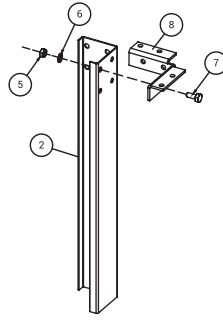
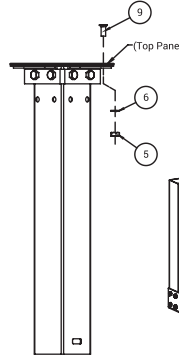
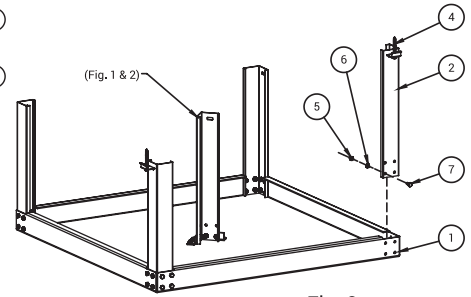

Fig. 1
Fig. 2
Fig. 3
Assemble leg (item 2), & attachment bracket (item 8), using included hex bolts (item 7), lock washers (item 6) & nut (item 5). See Fig. 1. Assemble Fig. 1. to the underside of square top, using included flat head screws (item 9), lock washers (item 6) & nut (item 5). See Fig. 2. Place square top upside down on table or flat surface. Assemble four legs (item 2) to top corners using included hex bolts (item 7), lock washers (item 6) & nut (item 5). Tighten hardware securely. See Fig. 3.